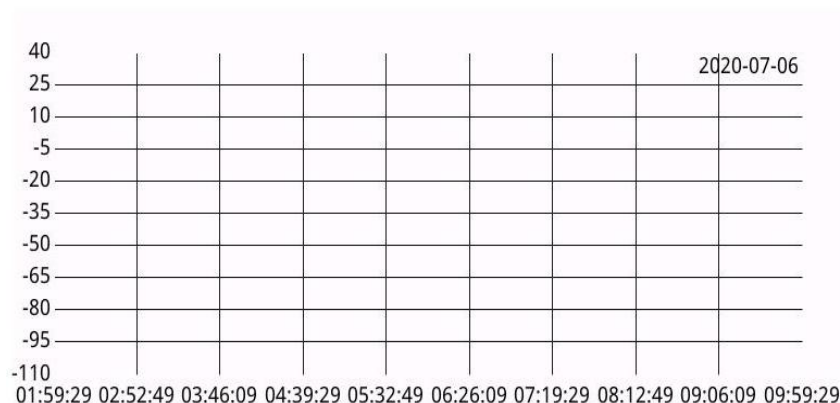

Figure 7-2: Displays and records temperature and vacuum level data during operation
(2) Trend Curves: Displays and records temperature and vacuum level data during operation (See Figure 7-2).